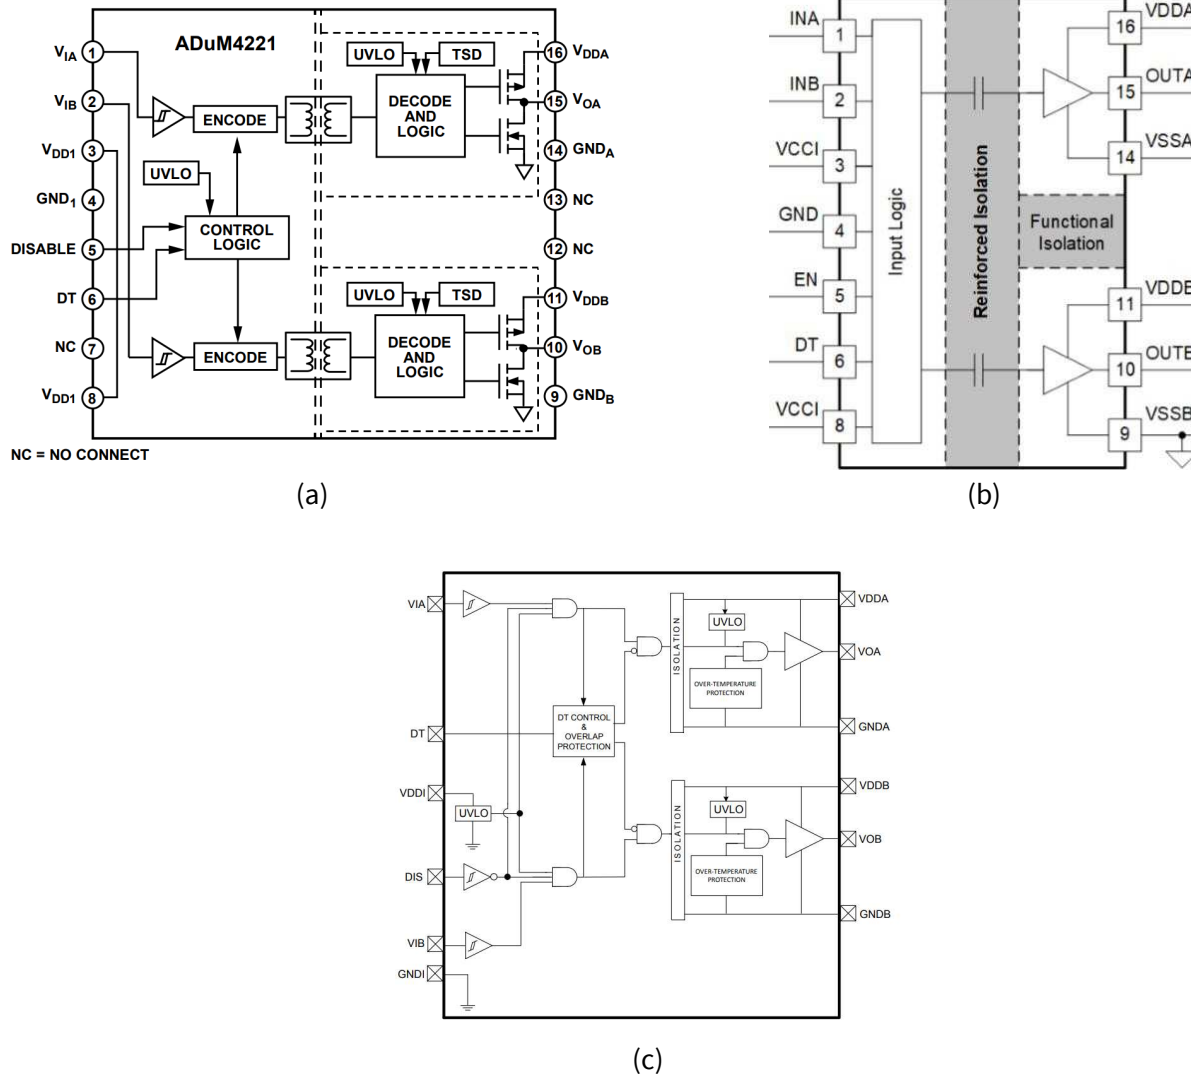

Figure 8: Pinouts and block diagram of gate drivers:
High switching-frequency poses great challenges to gate drivers. Among the switching parameters, the propagation delay and delay matching time are critical to ensure safe operation of the bridge circuits. A gate driver from Analog Devices, Inc. (ADI) (P/N ADuM4221), or from Texas Instruments Incorporated (TI) (P/N UCC21530), or from Skyworks (P/N Si823H2BD) can be used. Each of them has low propagation delay (< 50 ns), low delay mismatching (~ 5 ns), greater than 100 V/ns common-mode transient immunity (CMTI), and a minimum of 2 A peak source and sink currents. These gate drivers have the same package and pinouts and have been tested on the Demo Board. The diagrams for the three drivers are shown in Figure 8. The main differences between these drivers are the bias voltage and enabling voltage at the input/control side, deadtime programming, and isolation barriers. ADuM4221 and Si823H2BD can only accept +5 V logic level voltage at VDD1/VDDI while UCC21530 can accept 3 V - 18 V at VCCI so that it can interface with both digital and analog controllers. The enabling control voltage is logic LOW for ADuM4221 but logic HIGH (up to VCCI) for UCC21530 and Si823H2BD.